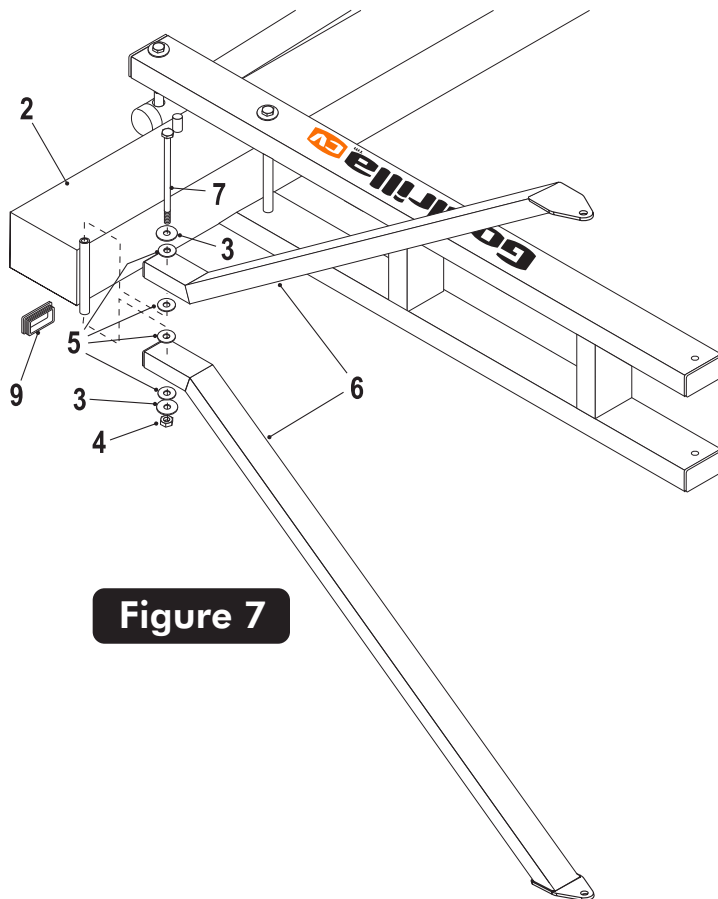

Figure 7
8. Attach Upper Arms (#6) to Pole (#2), as shown in Figure 7, using a bolt (#7), two flatwashers (#3), four plastic washers (#5) and hex nut (#4).